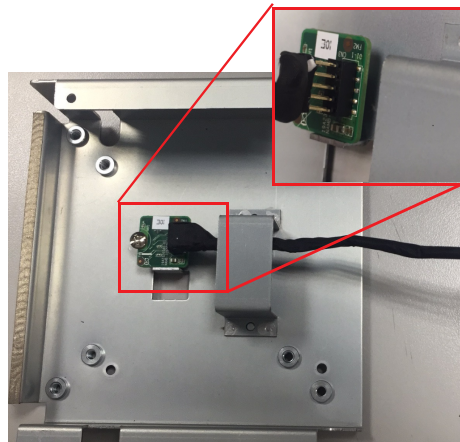

Figure 2.30
2. For PPC-3151W: Connect the cable to the TPM interface. The white label shown in Figure 2.30 corresponds to Pin 1 of the TPM board. The direction of the line is shown below.